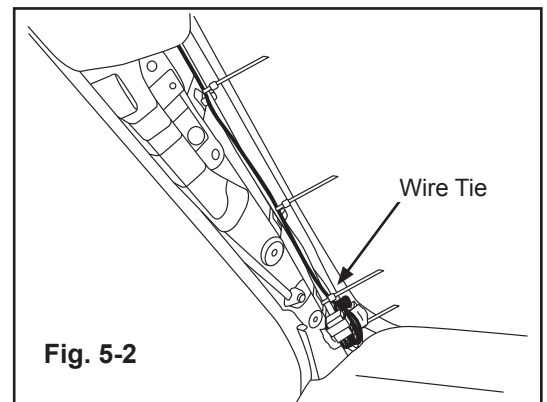

Fig. 5-2
b) Fold the wires of the jumper harness down so that the upper connector rests on the foam tape. Bundle any remaining slack in EC harness near the OE connectors in the bottom of the A-pillar. Secure bundle and jumper harness to OE harness of smaller OE connector with (1) wire tie, as shown. (Fig. 5-2)